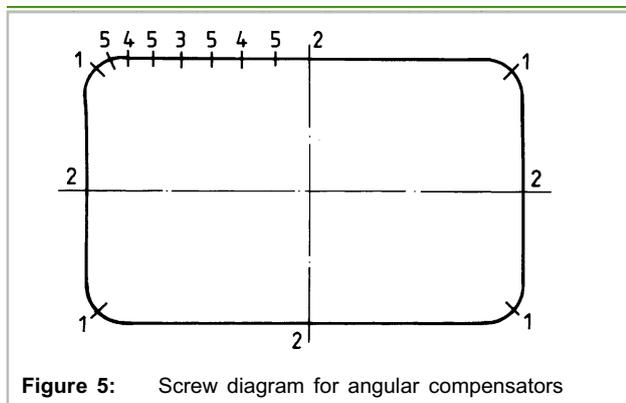
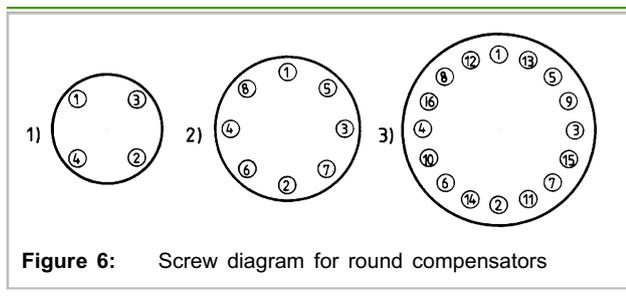

Figure 5: Screw diagram for angular compensators
Figure 6: Screw diagram for round compensators
4.5 Begin by tightening the screws. The screws must first be tightened at approximately half torque. Next, perform a second round of tightening at the indicated torque. For angular compensators, see Fig. 5; for round compensators, Fig. 6.